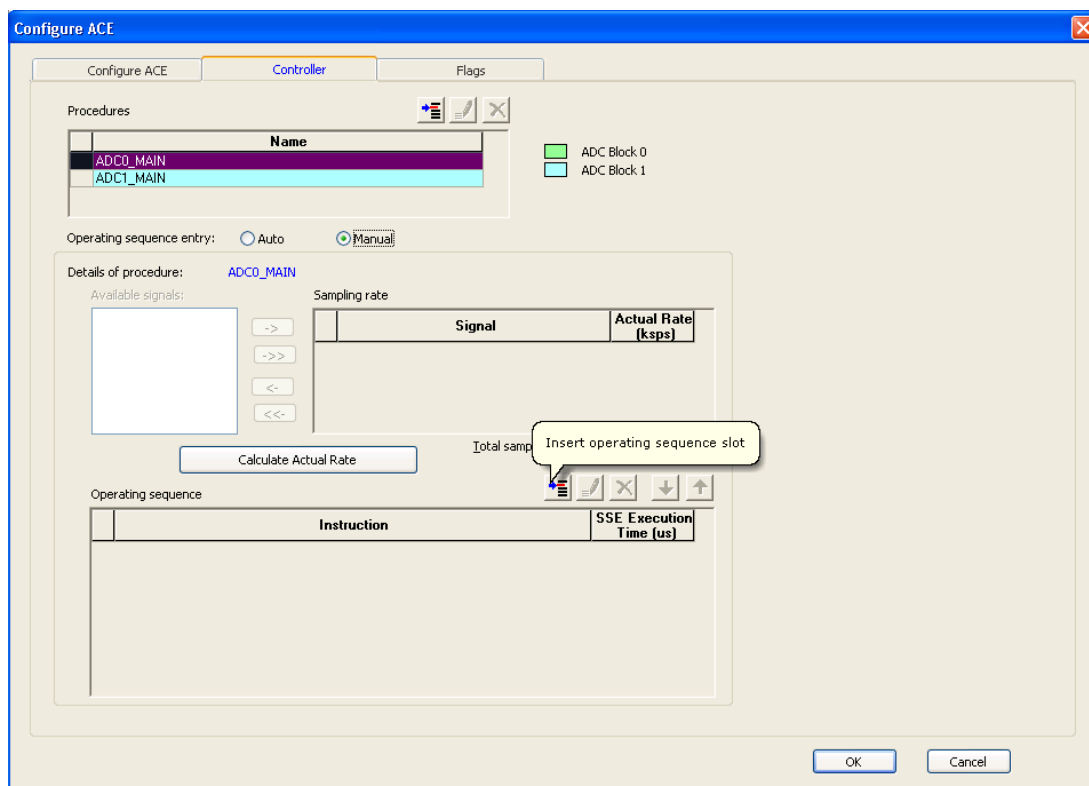

Figure 11 · MSS ACE Configuration to Enable Sampling Sequence
8. Click **Insert operating sequence slot** as shown in Figure 11 · .